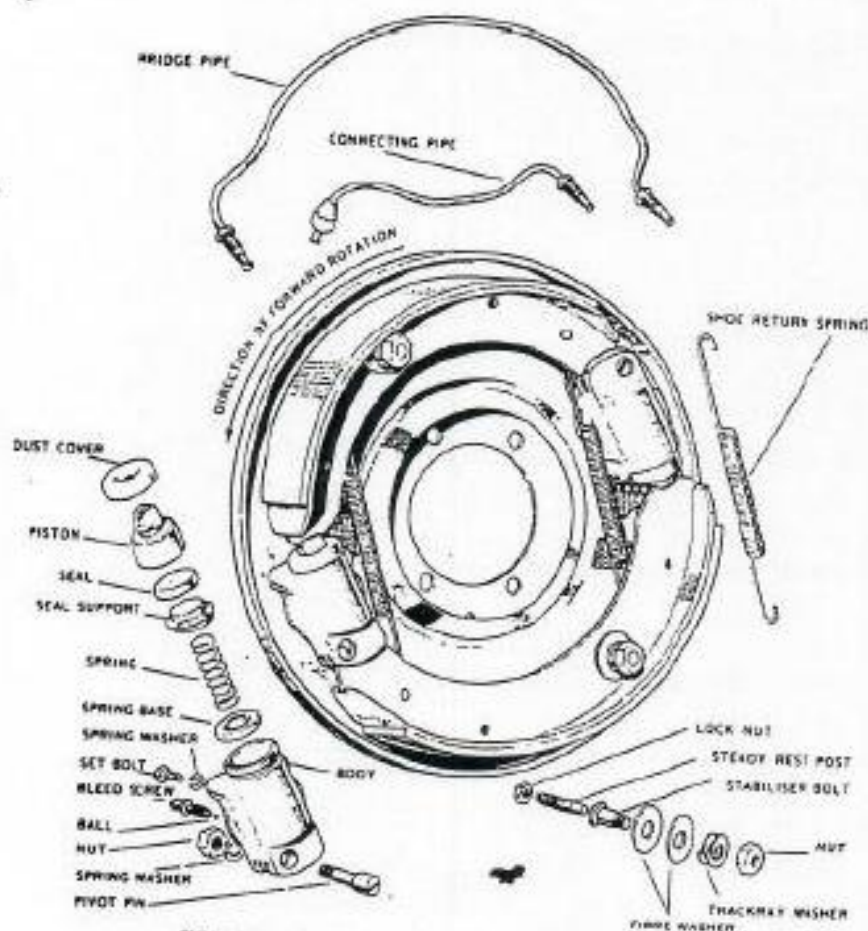

FIG. 5.—Front brake assembly (Mark VII — left-hand side).
**To Remove.** (Refer to Fig. 5.)